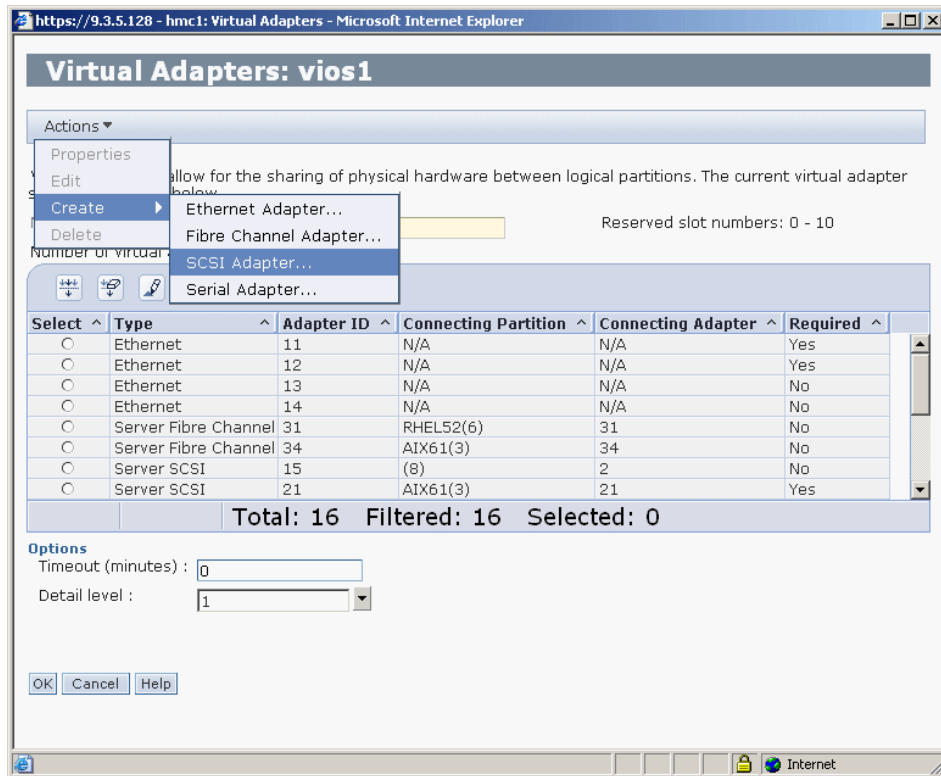

Figure 6-24 Dynamically adding virtual SCSI adapter
- The next window will look like the one in Figure 6-24. From the Actions drop-down menu, on the upper left, choose **Create** → **SCSI Adapter**.